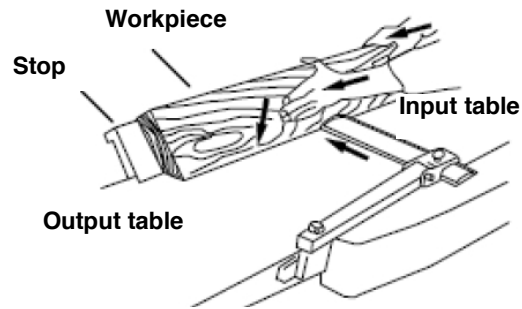

Fig. 18: Bevel process
Step 5: Guide the material over the planing knives, making sure that the front of the material is pressed completely flat against the fence and that the edge is in firm contact with the in-feed and out-feed tables (Fig.18).